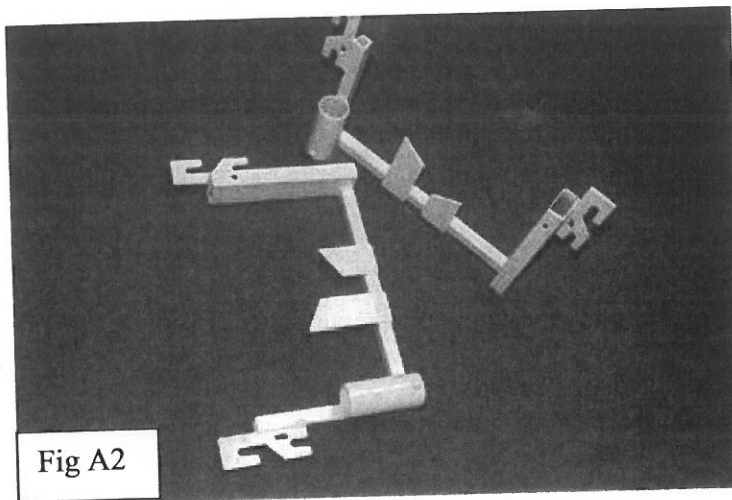
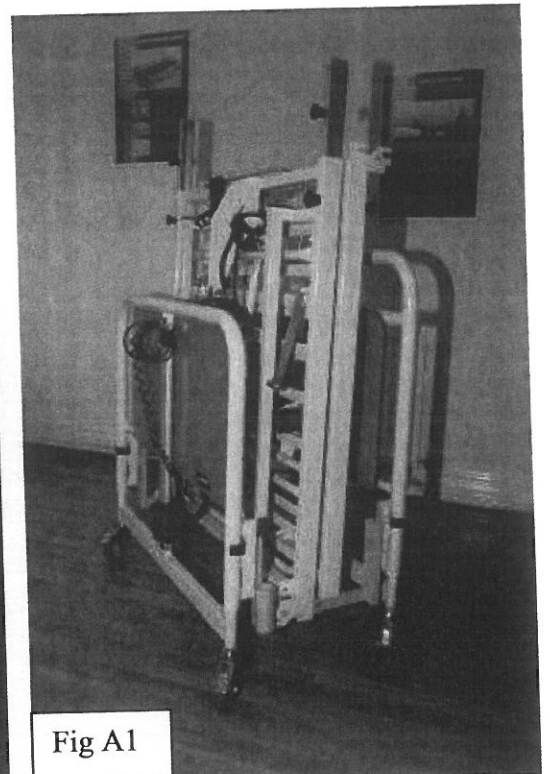

Fig A2
Fig A1
- The bed is delivered, unassembled or on a mounted storage unit. (Fig A1) by using the units (Fig A2)